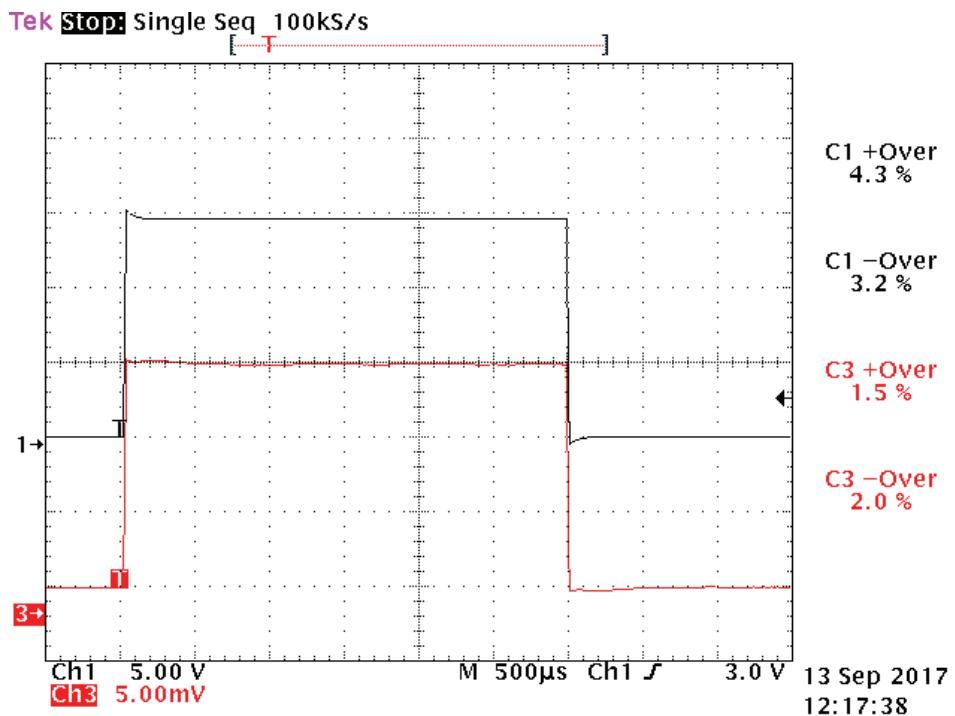

Figure 8. Final probe compensation wave forms.
4. **Long-Pulse Compensation (flat top):** Next set the sweep rate to 500 μ s/div. Adjust C3 and C1 to obtain the flattest top of the square wave. The final result is shown in Figure 8.